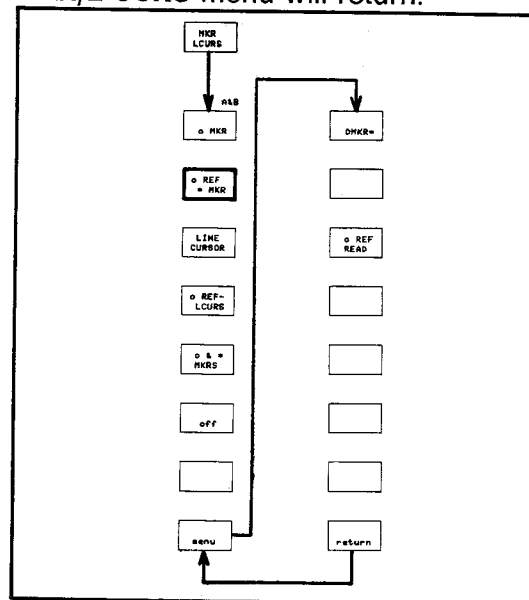

Figure 3-87. o REF- \* MKR menu
1. Press the **MKR/L CURS** key. The **MKR/L CURS** menu will be displayed in Menu Area as shown in Figure 3-87.
3. Press the 'menu' softkey. The o REF- \* MKR menu will be displayed as shown in Figure 3-87.